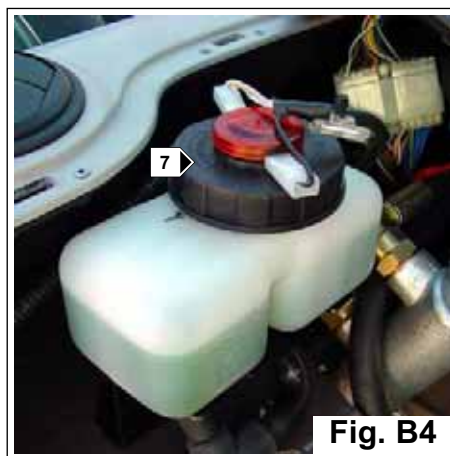

Fig. B4
- If necessary, add oil through the filler orifice "7" (Fig. B4) (see "LUBRICANTS" Table).